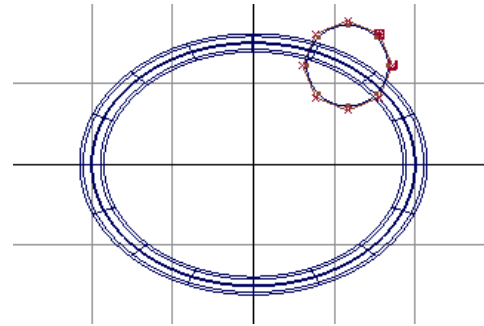

Figure 3-71 Circle moved on the base feature
6. Drag the cursor to move the circle to the desired position on the base feature, as shown in Figure 3-71.